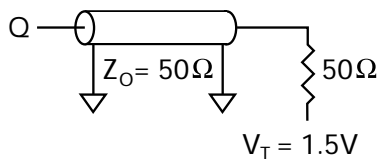
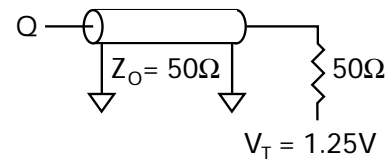

Figure 1
Figure 3
3. Test conditions as specified with output loading as shown in Figure 1 for 3.3V I/O ($V_{DDQ} = +3.3\text{V} \pm 0.165\text{V}$) and Figure 3 for 2.5V I/O ($V_{DDQ} = +2.5\text{V} + 0.4\text{V}/-0.125\text{V}$).
Output load	See Figures 1 and 2
Output load	See Figures 3 and 4